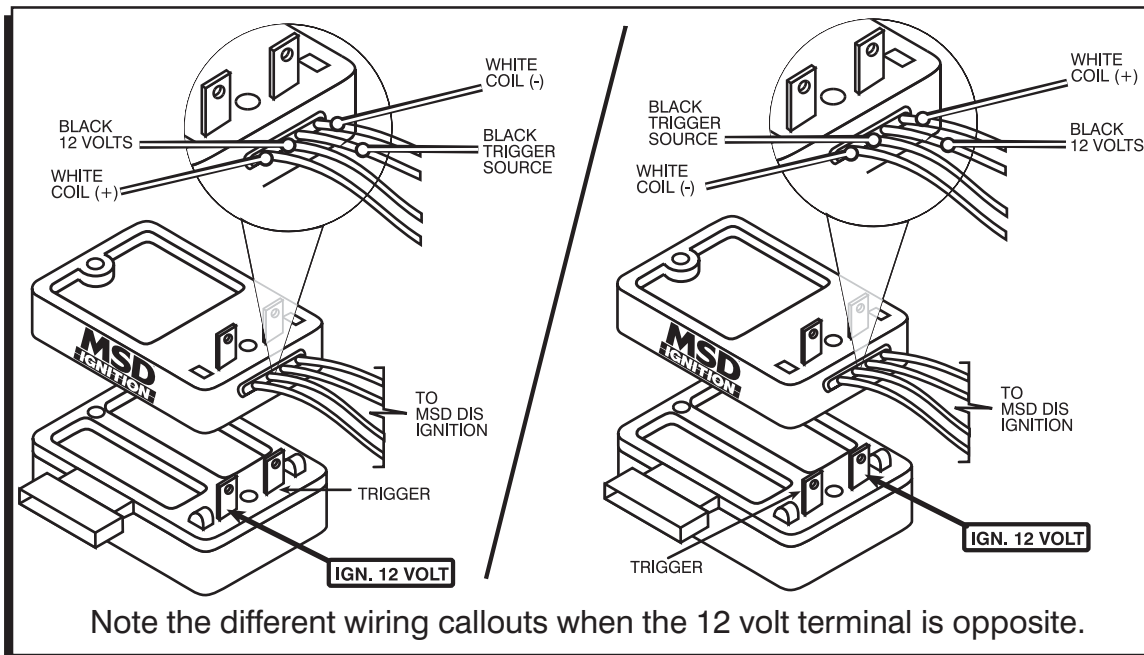

Figure 3 Wiring After Locating the 12 Volts Terminal.
4. With the 12 volt terminals identified, mark the four wires of the Interface Module (Figure 3). The White wire above the 12 terminal wire will always be Coil Positive (+). The other White wire will always be the coil negative wire.